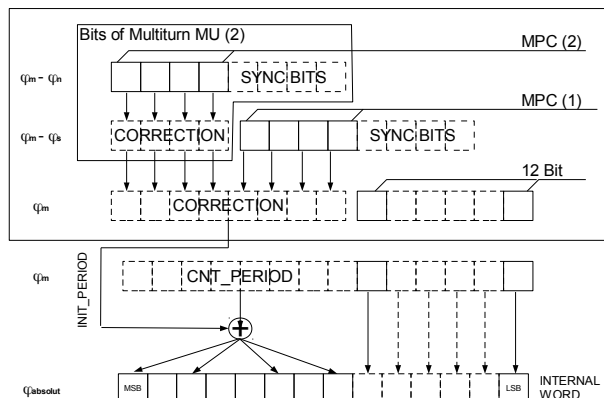

Figure 43: Principle of the synchronisation of a 3-track nonius system using 2 iC-MU without further multitrans data
Figure 43 shows the principle of the synchronisation of the data from iC-MU (2) to iC-MU (1).